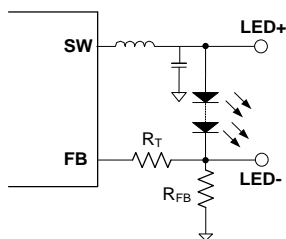

Figure 5: Feedback Network
The output current is set by the external resistor R_{FB} (see Figure 5). Feedback reference voltage is 0.2V, I_{LED} is then given by Equation (1):